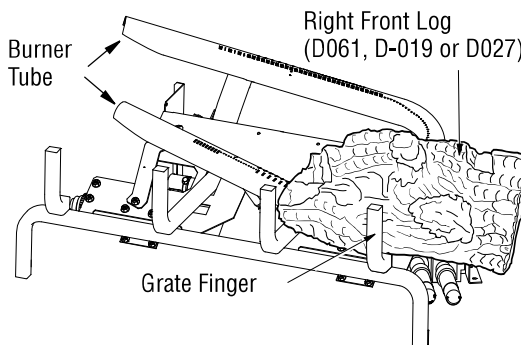

Figure 22 - Installing Right Front Log
- Find the right front log (LMF24GTA/B or LMF24MOA/B models: D-061, LMF30GTA/B or LMF30MOA/B models: D-019, LMF36GTA/B or LMF36MOA/B models: D-027). See **Figures 22, 22A, 22B, and 22C** for reference. The log has a rectangular shape on the bottom that fits against the lip on the black metal base, the square grate, and the round tube burner. Slide the log in place as shown in Figures.